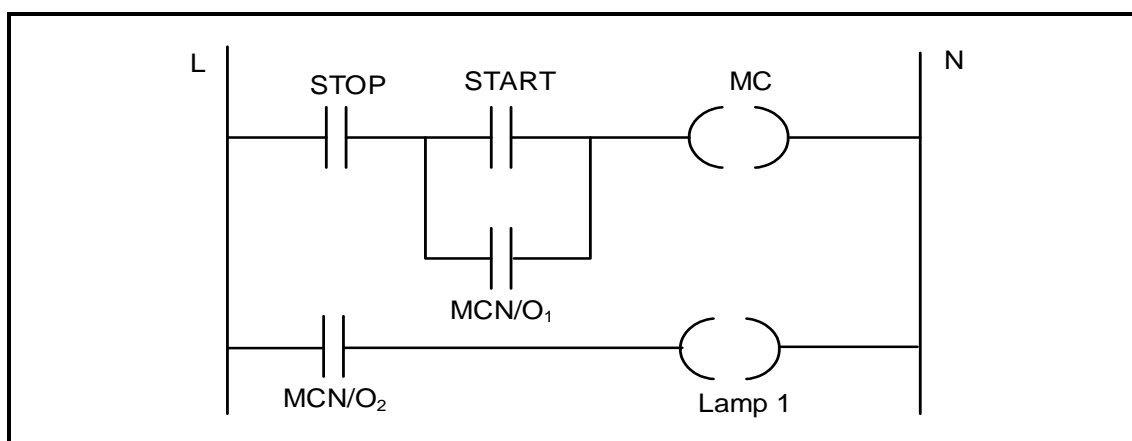

FIGURE 6.12: LADDER LOGIC CIRCUIT
- 6.12 Refer to FIGURE 6.12 below and explain the sequence of operation of the circuit.